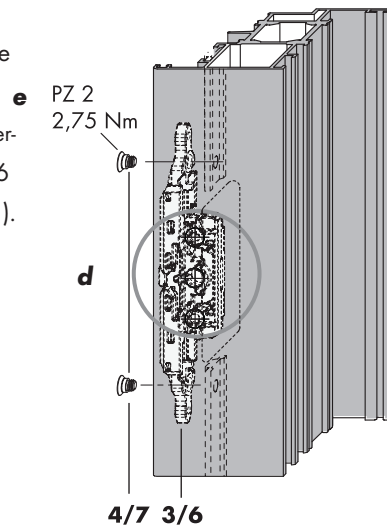

Figure 3
- d Insert ESG LM M6 / ESG LM FBS M6 (3/6) into the processed section 72 x 15 (Figure 3).
- e Screw SG LM M6 / ESG LM FBS M6 (3/6) in operating rod punch hole Ø 5.2 using coupling screw M6 (4/7)(PZ 2, torque 2.75 Nm ± 0.25 Nm) (Figure 3).